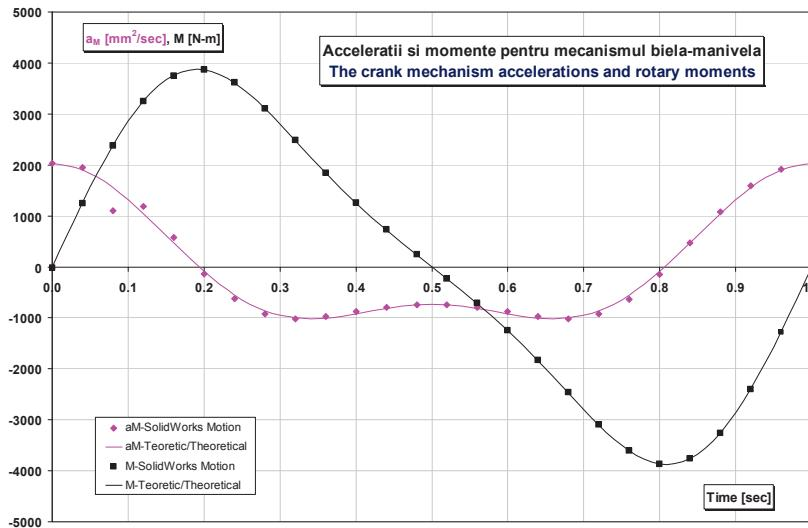

Fig. 17.44
The results are presented numerically in table 2 and graphically in fig. 17.44, where the SolidWorks Motion points are placed over the theoretical acceleration curve.
The results are presented numerically in table 2, where the  $\psi$  angle is calculated through rel. (14), and graphically in fig. 17.44, where the SolidWorks Motion points are placed over the theoretical curve of the motor torque.